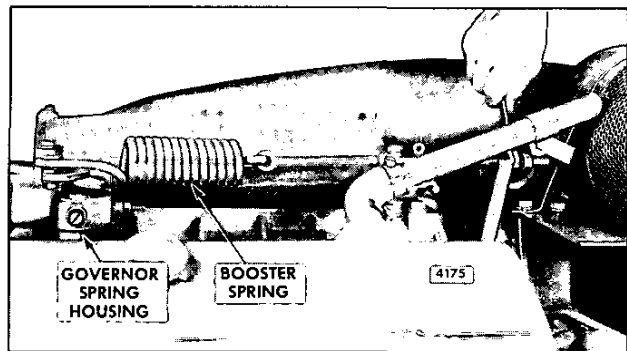

Fig. 16 – Adjusting Booster Spring
1. Refer to Fig. 16 and disconnect the booster spring and the stop lever retracting spring.
2. Refer to Fig. 16 and loosen the booster spring retaining nut on the speed control lever. Loosen the lock nuts on the eye bolt at the other end of the spring.